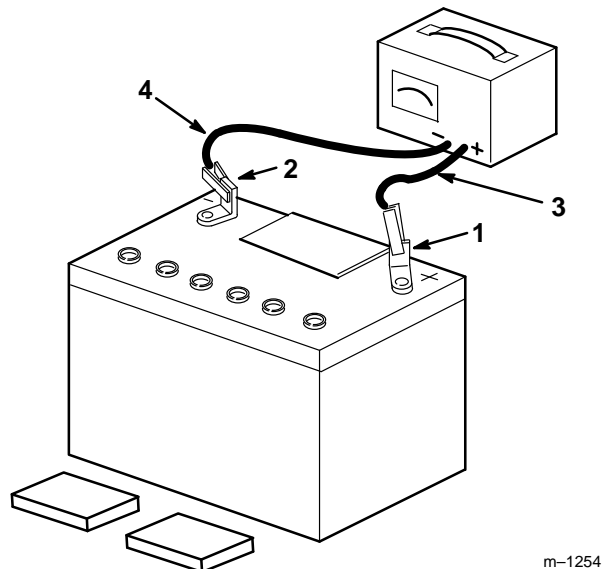

Figure 6
3. Leave the covers off and connect a 3 to 4 amp battery charger to the battery posts (Fig. 6). Charge the battery at a rate of 4 amperes or less for 4 hours (12 volts).
4. When the battery is fully charged, disconnect the charger from the electrical outlet then from the negative and positive battery posts (Fig. 6).